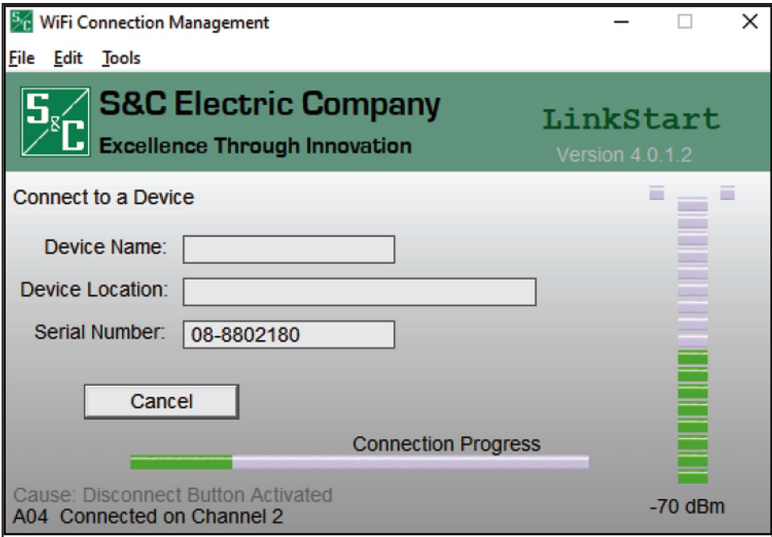

Figure 16. The Wi-Fi connection Management dialog box.
STEP 4. When the connection is successful, click on the **Firmware Update** button. See Figure 16.